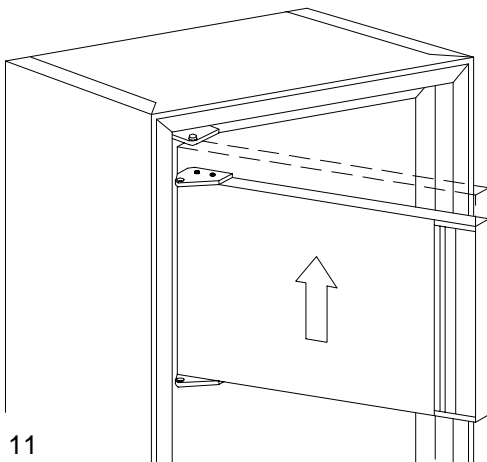

Figure 11
10. Reposition the upper door in a similar manner as described in Step #9, except the top of the door must be engaged into the hinge pin shoulder before setting the door in place. (See Figure 11)